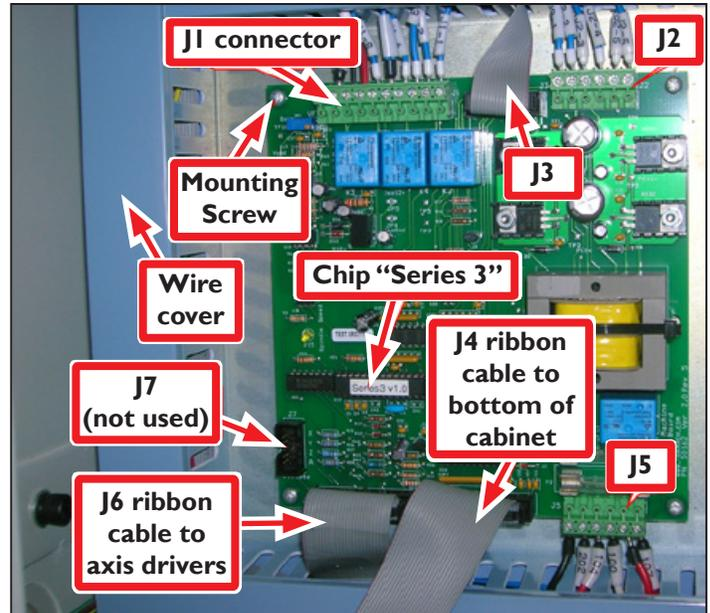

Figure 2
- Remove four *Mounting Screws* located in the four corners of the control board; remove control board (see **Figure 2**).
- To install the replacement board, reverse the above procedure. Take care to properly seat all connections without putting undue stress on the control board. The new board has the same part number, but one of the main circuit chips has a *Series 3* label on it (see **Figure 2**).